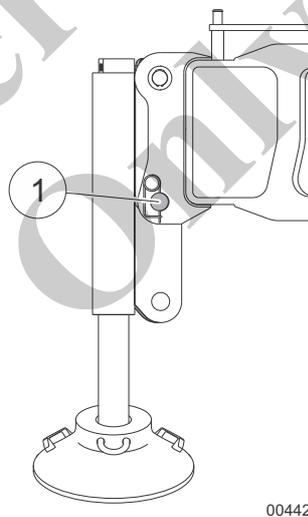

Fig. 126 Securing the pin in the top hole
11 Retract the outrigger cylinder until the pin (1) in Fig. 126 can be inserted into the top hole. Secure the pin in the top hole.